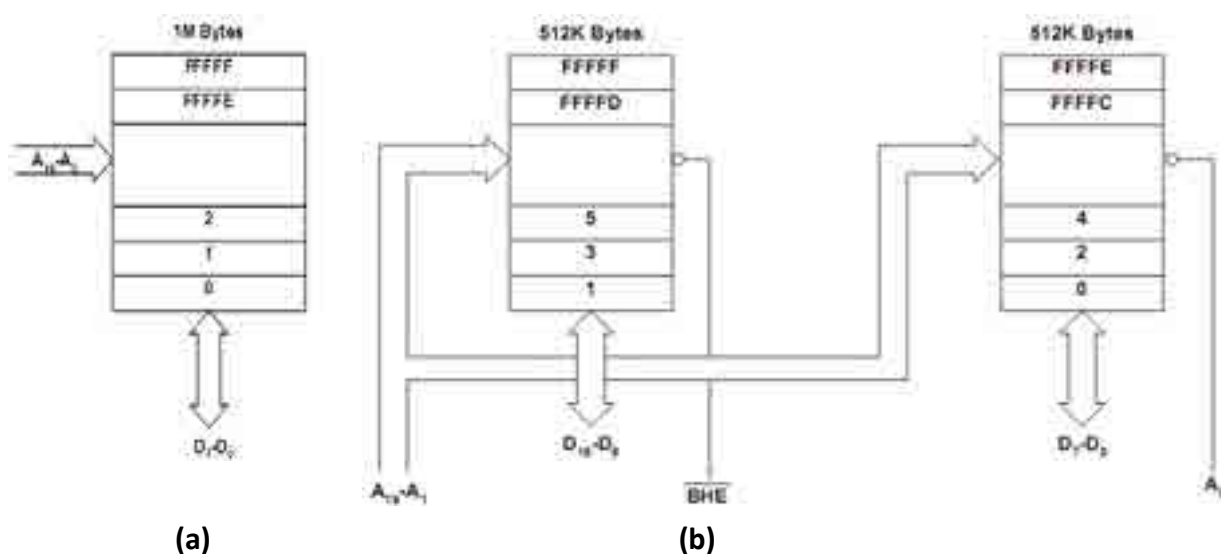

Fig. 2: (a) Logical memory organization, and (b) Physical memory organization (high and low memory banks) of the 8086 microprocessor.
- * The memory address space of the 8086-based microcomputers has different logical and physical **organizations** (see Fig. 2).